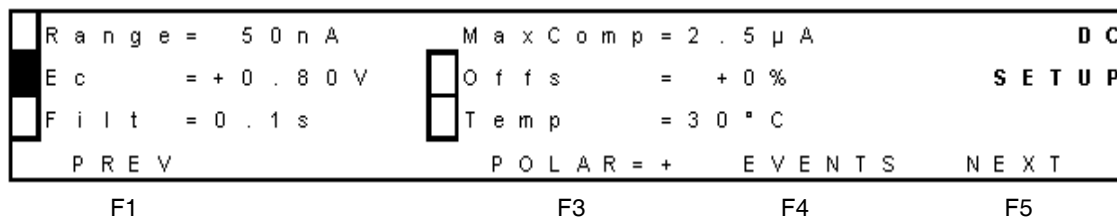

Figure 3-25 DC Setup Screen
1. From the Main screen, select **F2 DC**. (Alternatively, from the DC Stat screen, select **F1 PREV**). The DC Setup Screen appears (Figure 3-25).